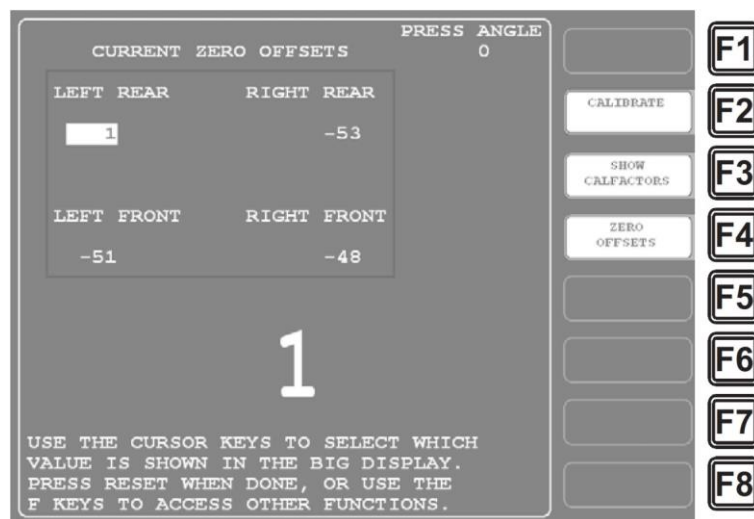

Figure 3-13. Calibration Screen: Current Zero Offsets Display
5. Select CALIBRATION and press ENTER to display the Calibration screen (see Figure 3-13).
6. Press F4 (Zero Offsets). As shown in Figure 3-13, the caption at the top of the screen changes to “CURRENT ZERO OFFSETS” and the values for the two (AutoSetPAC 2-Channel) or four (AutoSetPAC 4-Channel) channels change to the current offsets.